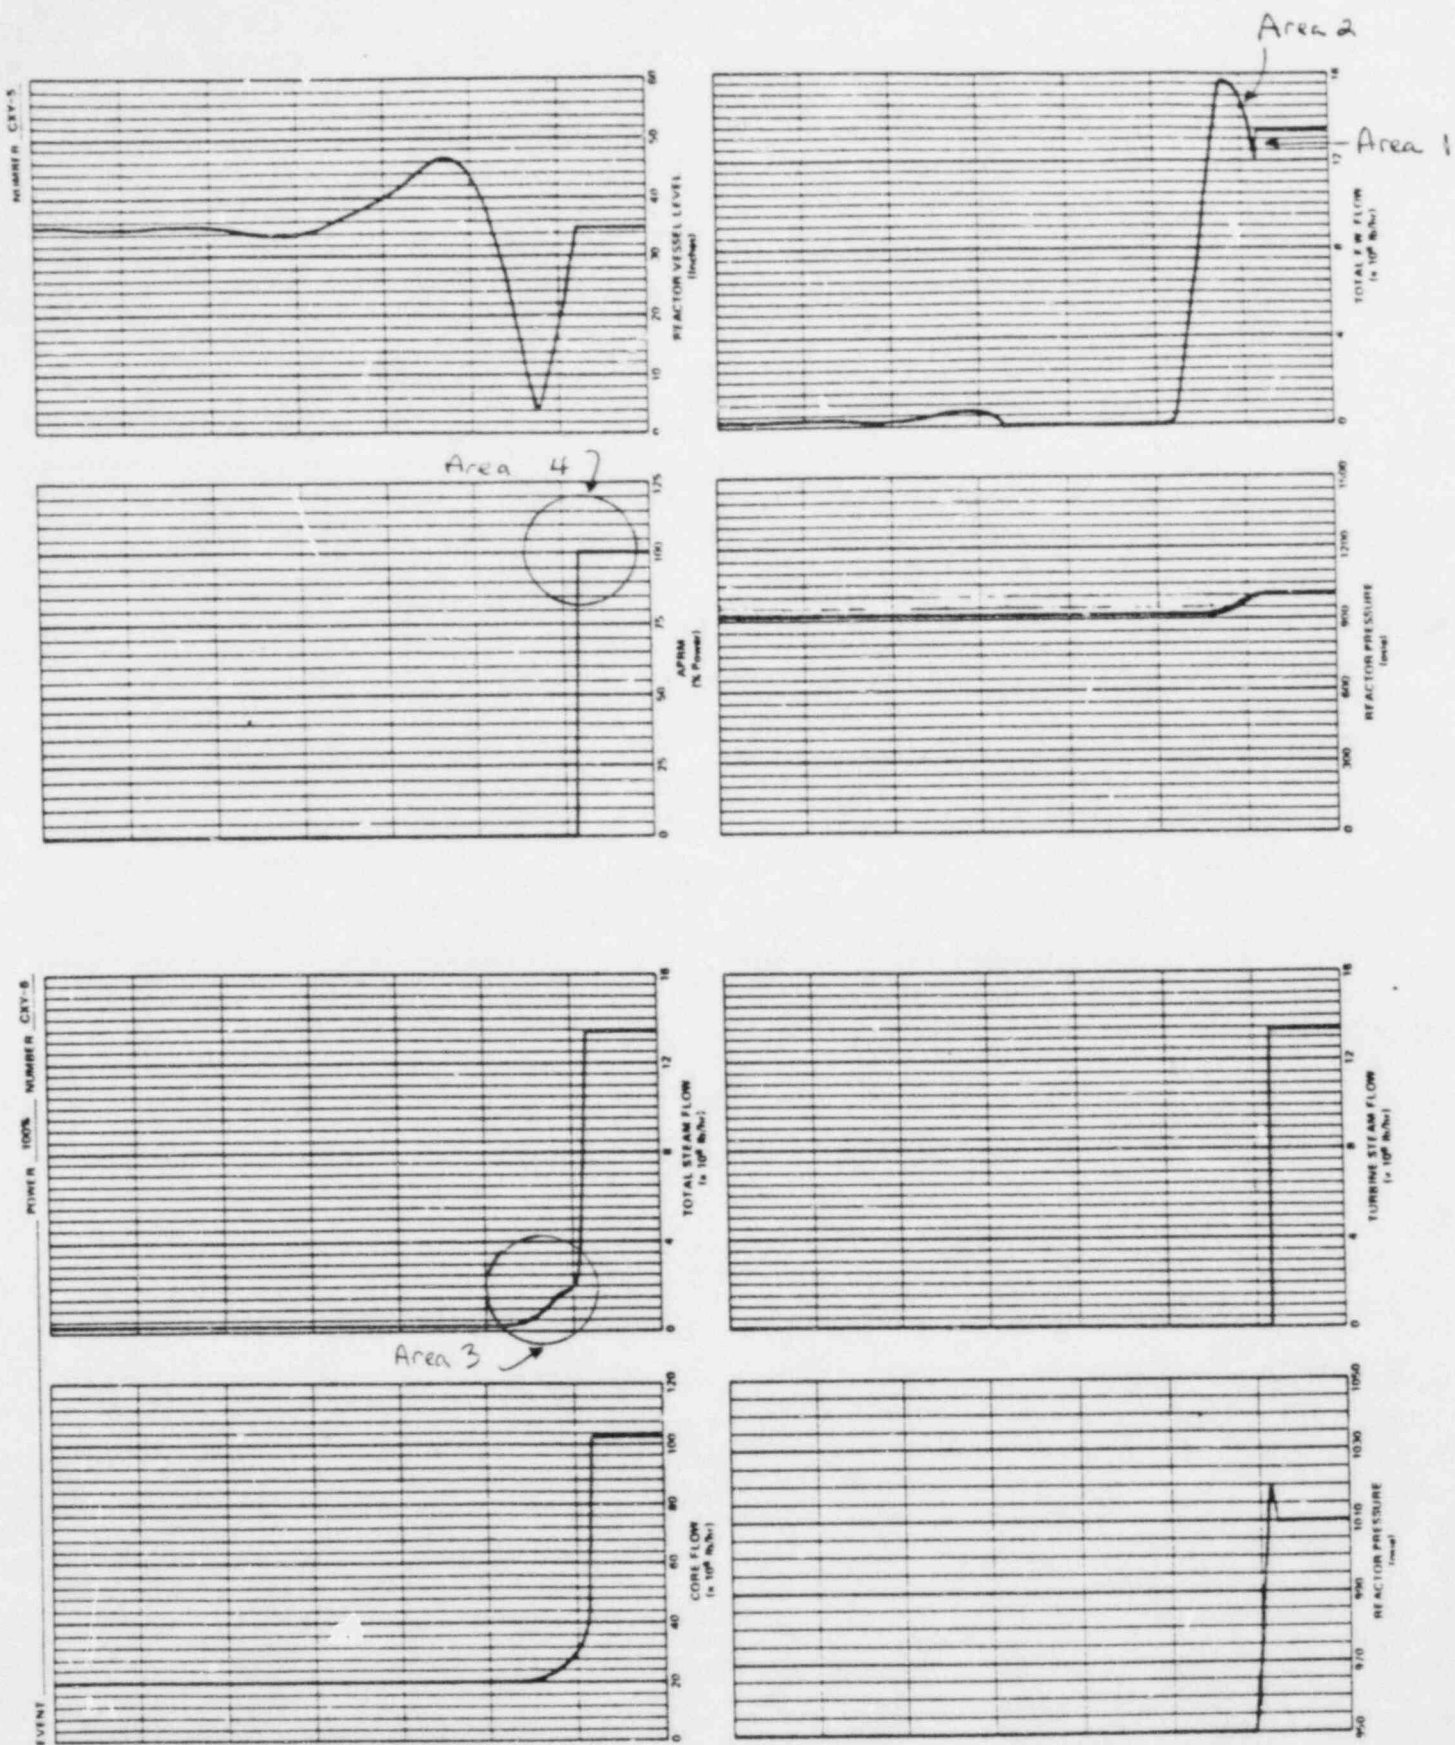

Figure 1.5
- 1.5 With the plant operating at 100% power, a TURBINE TRIP WITH BYPASS occurs. Answer the following using the transient information on attached figure 1.5 and assuming no operator action: